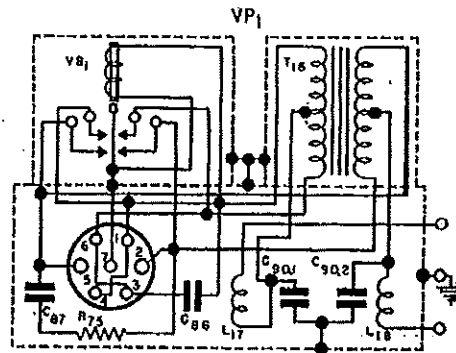

Fig. 32
- (d) Buffer capacitor C₀₂ and resistor R₇₅ are connected in series across the secondary of transformer T₁₀ to control the surge voltages developed in the circuit. Buffer capacitor C₀₁ is connected across the primary for the same purpose. In PE-110-B, and PE-110-C reference numbers C₀₁ and C₀₂ are changed to C₈₀ and C₈₇ respectively. (See Fig. 32.)